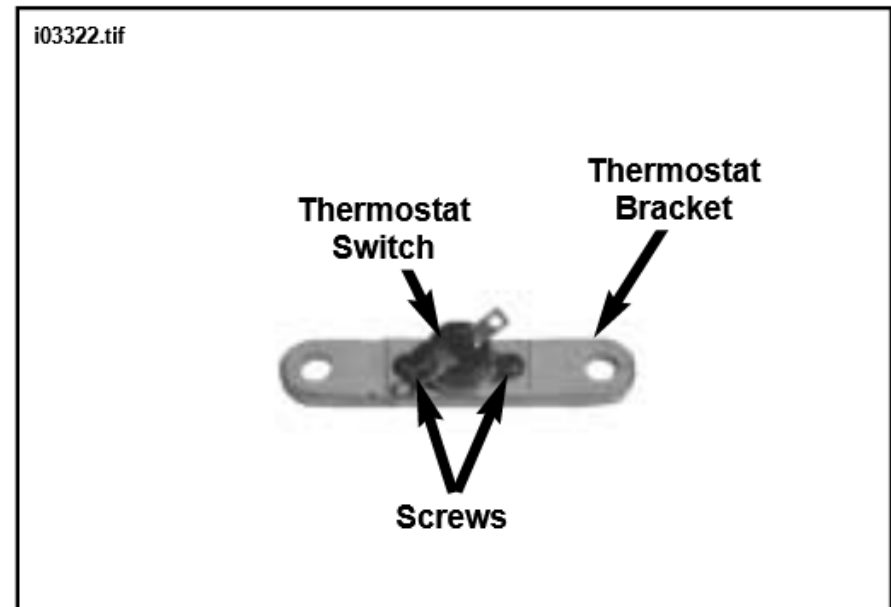

Figure 6. Install Switch to Thermostat Bracket
- See Figure 6. Install thermostat switch (P/N Y0052.K) to thermostat bracket (P/N R0052.K) using screws (P/N C0217.K) and tighten to 12.4-15.0 in-lbs (1.4-1.7 Nm).